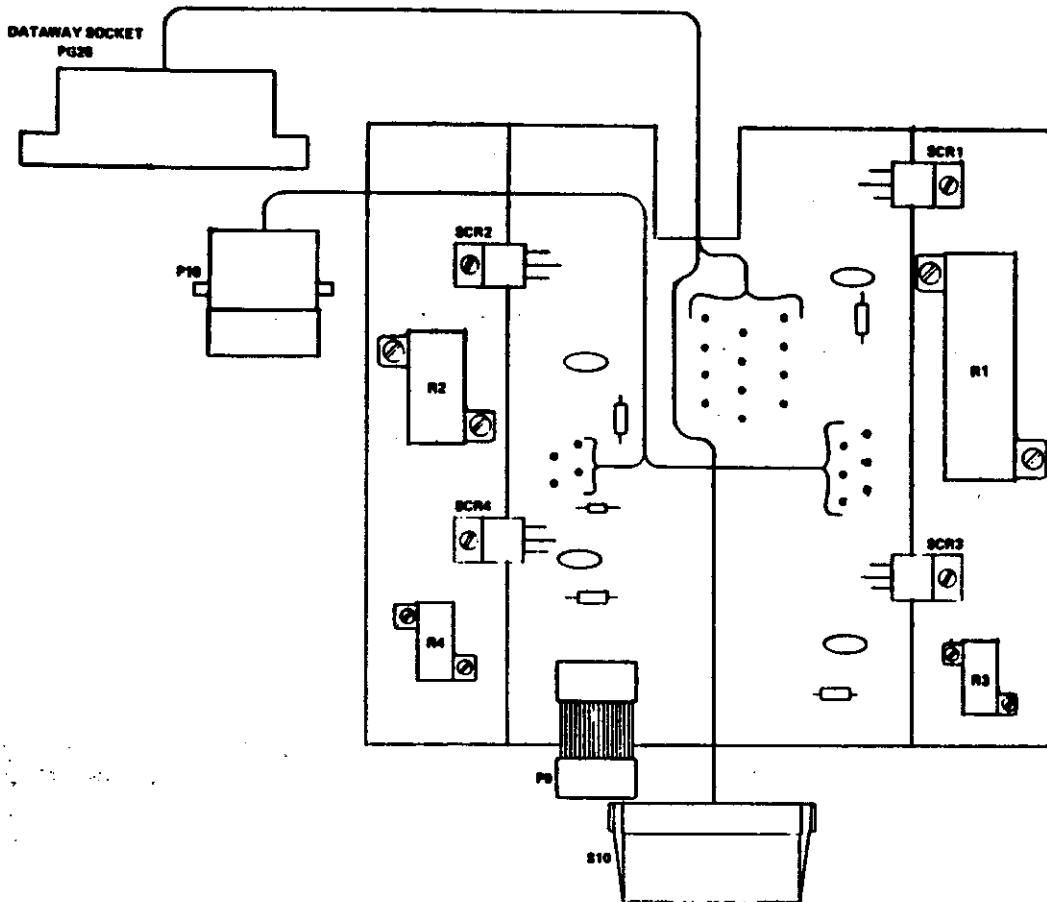

Figure 8 - Crate Interface Assembly, B430
3. Crate interface assembly, B430. (Figure 8)
3. Disconnect P18-S18 to crate interface board (Figure 8).